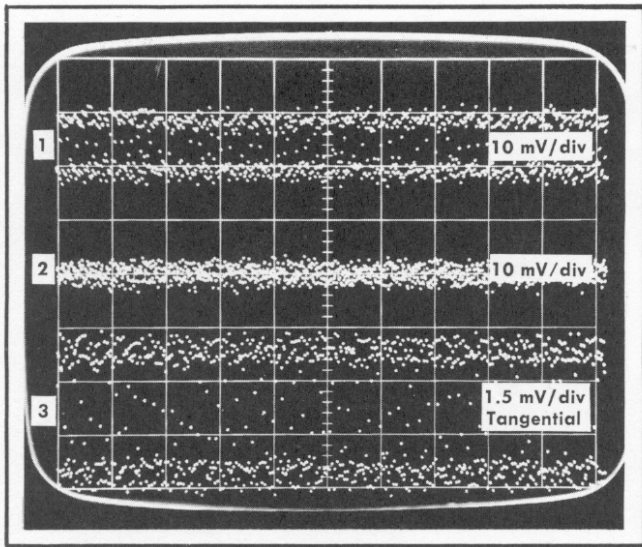

Fig. 5-7. Triple exposure of Tangential noise measurement.
d. Refer to Fig. 5-7 for displays of the following noise measurement procedure.
(1) Obtain a display of two traces.
(2) Adjust the variable attenuator until the two traces bend together just to the point at which they appear as one trace.
(3) Change the Type 284 Amplitude switch to 1.0 V, 10 times the signal amplitude. The display now has tangential deflection factor of 1.5 mV/div.
The 5 mV tangential display noise limit includes 3.33 graticule divisions (3) of Fig. 5-7. Check that the bottom edges of the two traces are not more than 3.33 divisions apart. Waveform (3) measures as 3.6 mV tangential noise.
The noise displays of Fig. 5-7 have a noise deflection factor based upon the signal amplitude, the sampling unit Units/Div setting, the fact that the final trace separation is twice the RMS noise, and that the tangential noise is 3 times the RMS noise. The square wave signal amplitude that makes two traces appear as one sets the trace separation to twice the RMS noise. The procedure used here then permits a noise deflection factor to be determined by dividing the input mV/div deflection factor by 2 (trace separation is 2 times the RMS noise), multiplying by 3 (tangential noise is 3 times the RMS noise) and then dividing by 10 (the signal amplitude change factor).